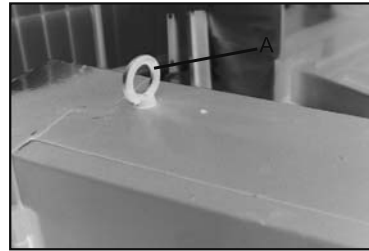

Fig. 1
- Use a 2000kgs wrecker hang up the machine on parts A (Fig. 1) to suitable space.
(fig.1)